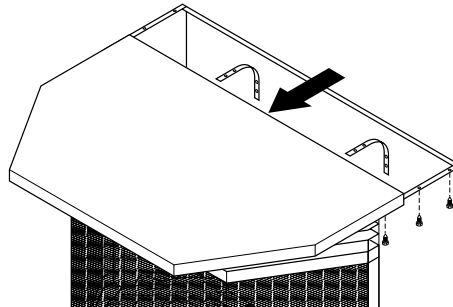

Figure 12 - Removing Stove Top Panel
1. Remove top panel of stove by removing three screws from under top lip on each side of stove (see Figure 12).
2. Facing front of stove, carefully slide top panel forward until it is completely removed from stove (see Figure 12).